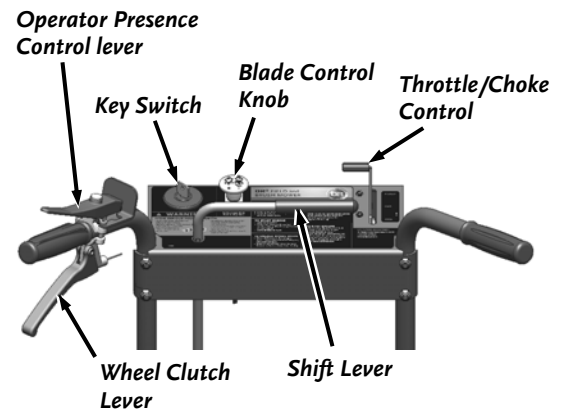

Figure 4
1. Start your machine following the instructions in the “Starting” section on the next page. Hold the Operator Presence Control Lever as you engage the Blade by pulling up on the Blade Control Knob (**Figure 4**).